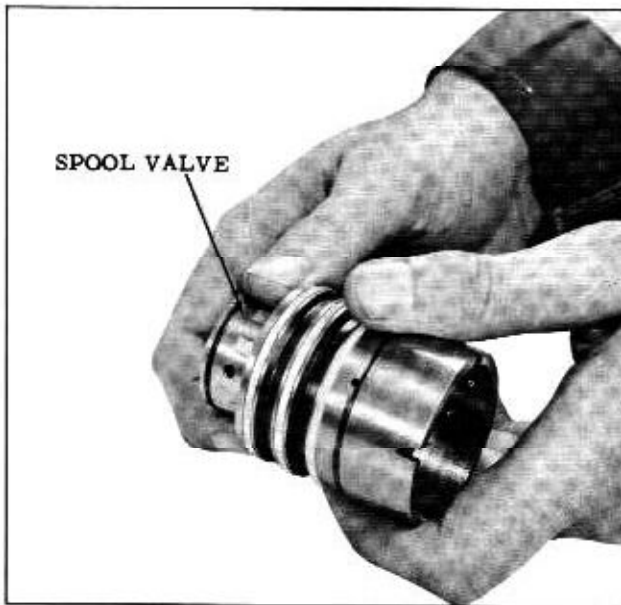

Fig. 4-53 Removing Spool Valve
3. Push the spool valve out of the flush end of the valve body until the dampener "O" ring is exposed, then carefully pull the spool from the valve body while rotating the valve. (Fig. 4-53) If the spool valve becomes cocked, reverse the withdrawal procedure, then again attempt to remove the valve.